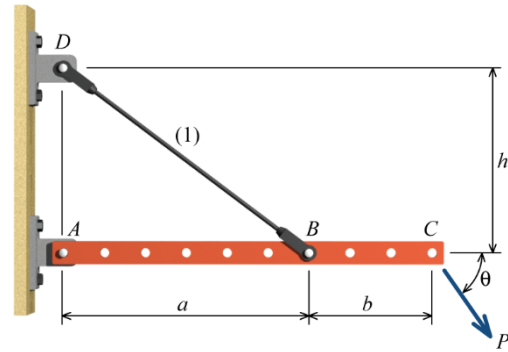

FIGURE P1.30
P1.30 Rigid bar *ABC* shown in Figure P1.30 is supported by a pin at bracket *A* and by tie rod (1). Tie rod (1) has a diameter of 5 mm, and it is supported by double-shear pin connections at *B* and *D*. The pin at bracket *A* is a single-shear connection. All pins are 7 mm in diameter. Assume $a = 600$ mm, $b = 300$ mm, $h = 450$ mm, $P = 900$ N, and $\theta = 55^\circ$. Determine the following: